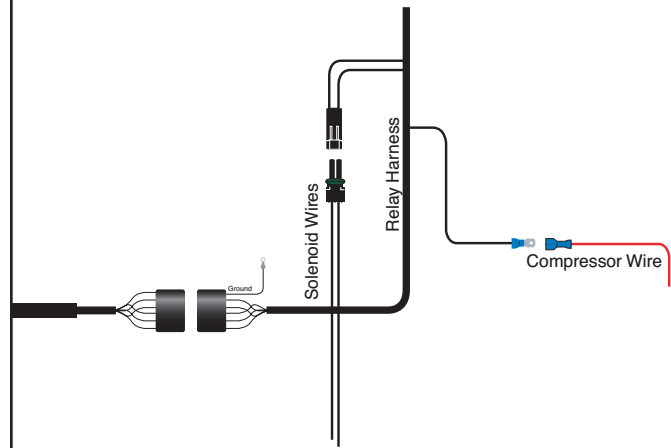

Figure 5
2. Connect the wire with the male terminal from the compressor to the female terminal coming from the relay wire (Figure 5).
3. Connect the double terminal connector from the solenoid to the double terminal connector relay wires (Figure 5).